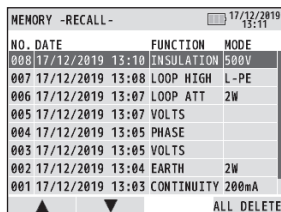

Fig.16-4
- (2) Press ▲(F1) or ▼(F2) switch and select the data you wish to review, and then press ENTER. (Fig. 16-4)
Press F4 switch in the state as Fig. 16-4 shows to delete all data.